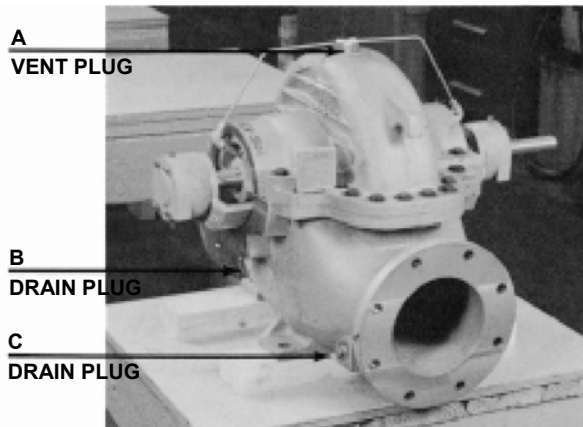

FIGURE 28 – PUMP WITH MECHANICAL SEALS
1. Drain the pump by opening vent plug (A, Figure 28) and remove drain plugs (B and C) on the suction and discharge nozzles.